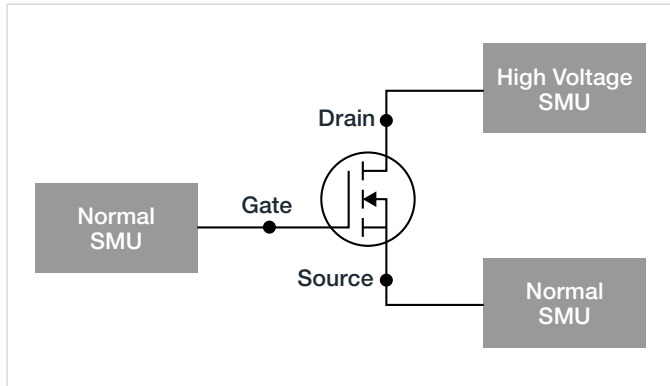

Figure 5. Mixed SMU testing configuration.
**Figure 5** is a test configuration with a high voltage SMU placed only on the device's Drain. The Gate and Source are connected to normal SMUs with maximum outputs of 200 V or less. However, the design of 200 V SMUs doesn't take into account the potential for damage resulting from high voltages external to the SMU. During breakdown testing, the device under test can be destroyed and the high voltage on the Drain can seriously damage the normal SMUs connected to the Gate or Source.